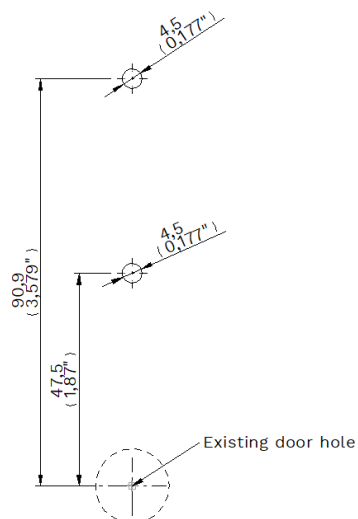

Figure 2. Fixing holes for locks assembly.
The dimensions and positions of these holes are shown below in Figure 2.
1. Drill the necessary holes on the furniture door according to the drilling template shown on Figure 2.